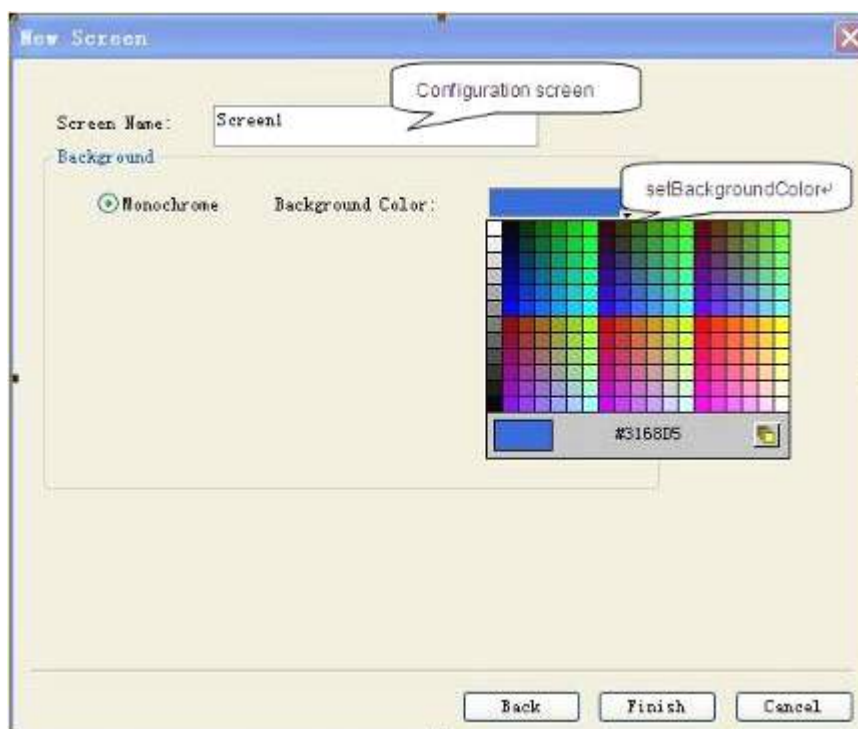

Figure 4-2: New Screen dialog
2. In the “New Screen” pop-up dialog, set the name and background color of the screen to be created, and then click OK. The default name of a new screen is the serial number of the screen, and the default background color is blue. See Figure 4-2.